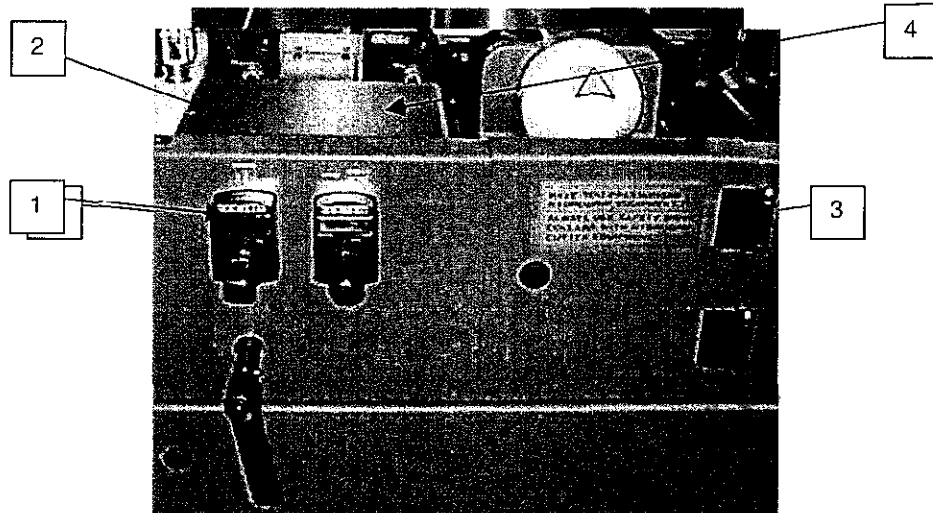

Figure 5.8
5.8 Setting Second Bottom Head (Figure 5.8)